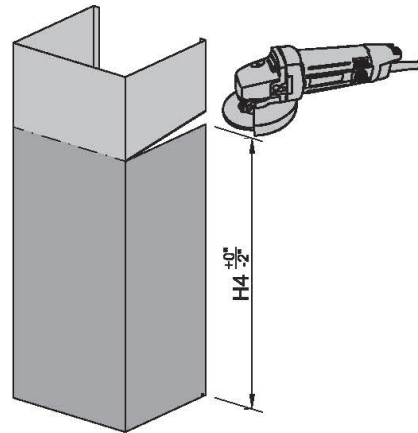

Figure 7
- 8 Cut chimney to height needed. (Figure 7)
Install the two part chimneys on top of the hood. Slide the inside section up until the vertical vent slots are visible, attach top portion to mounting bracket with screws. Secure lower chimney portion to the hood with screws provided. (Figure 7)